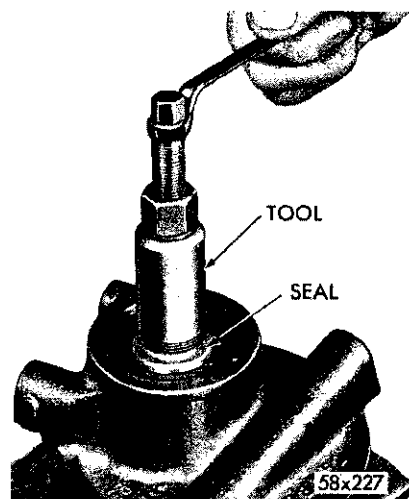

Fig. 5—Removing Pump Oil Seal (Typical)
(5) Remove the pulley with Tool C-3615 or C-3934 as follows:
(6) If there has been evidence of a leak, remove pump shaft oil seal by threading Tool C-3783 far enough into seal to engage the metal portion of the seal (Fig. 5).